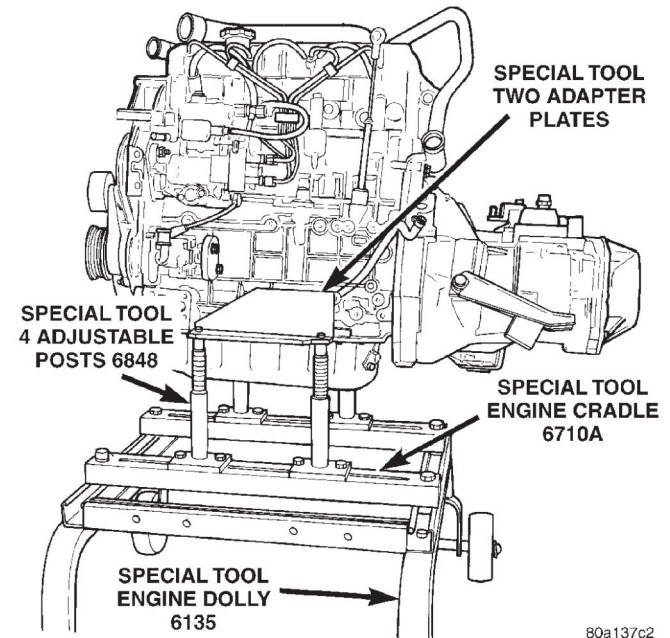

Fig. 22 Engine Removal
- (34) Hoist vehicle.
- (35) Remove exhaust pipe at turbo outlet.
- (36) Remove connections at starter.
- (37) Remove power steering high pressure line bracket at rear of oil pan.
- (38) Remove both driveshafts from transaxle. Refer to Group 2, Suspension and Driveshafts.
- (39) Disconnect clutch cable at transaxle.
- (40) Remove reinforcement plate on lower crossmember.
- (41) Remove front and rear engine mounts. Refer to procedure outlined in this section.
- (42) Drain engine oil and remove oil filter if necessary.
- (43) Mount both special tool, engine support brackets VM-1026 to cylinder block (Fig. 22).
- (44) Using engine dolly and cradle assembly with 4 adjustable posts align posts with holes in the engine support brackets.